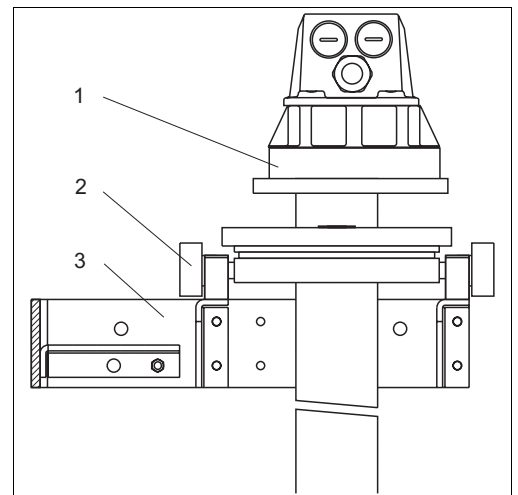

Fig. 14: CLA111 mounted with pendulum frame
6. Hang the assembly into the pillow blocks of the pendulum frame (Fig. 14).